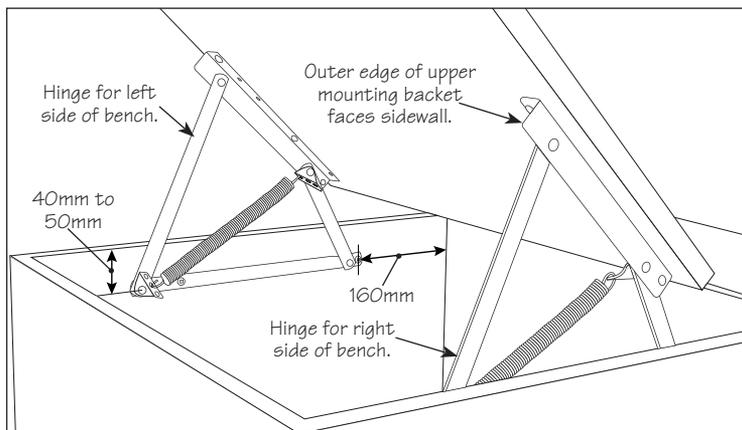

Figure 1: Basic seat hinge installation.
**Caution:** These hinges are handed; see **Figure 1**. Note the orientation of the upper mounting bracket; the outer edge of the bracket faces the sidewall.